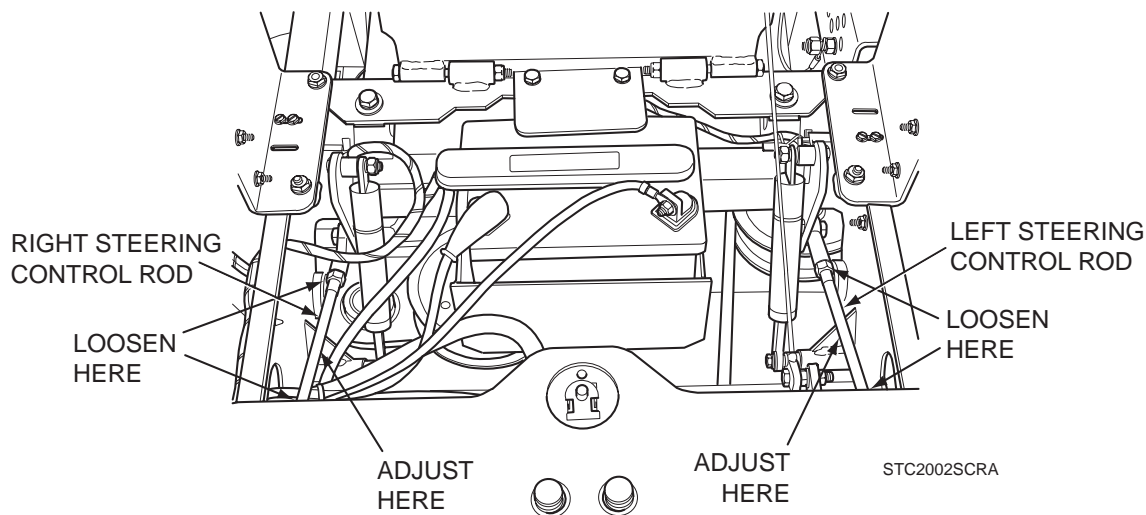

Figure 6-3. Steering Control Rods Adjustment
4. Adjust the RH wheel by loosening the jam nuts on the steering control rod and turning the rod until the drive wheel turns in the forward direction. Turn the rod back until the drive wheel stops moving. Turn the rod back an additional 1/2 turn. (See Figure 6-3).
- A. Stop the machine and place the steering control levers in the neutral position. Loosen the lock nuts securing the ball joints at each end of the LH steering control rod. Rotate the control rod to shorten the rod and tighten the lock nuts. This will cause the control rod to stroke the LH pump less, slowing down the LH wheel. (See Figure 6-3, page 24).
- A. Stop the machine and place the steering control levers in the neutral position. Loosen the lock nuts securing the ball joints at each end of the RH steering control rod. Rotate the control rod to shorten the rod and tighten the lock nuts. This will cause the control rod to stroke the RH pump less, slowing down the RH wheel. (See Figure 6-3, page 24).